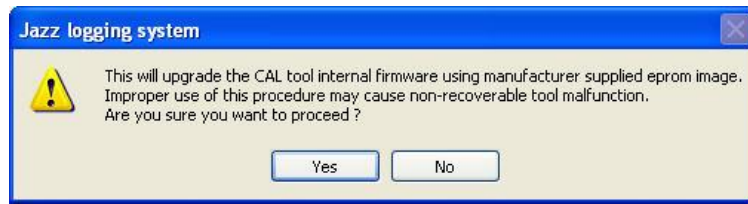

Figure 6-3 Warning Message during firmware upload
- The following message will appear (Figure 6-3). Click **Yes** to validate your choice.